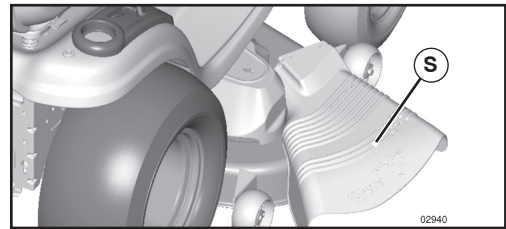

Fig. 9
CAUTION: Do not operate the mower without either the entire grass catcher, on mowers so equipped, or the deflector shield (S) in place. (See Fig. 9)